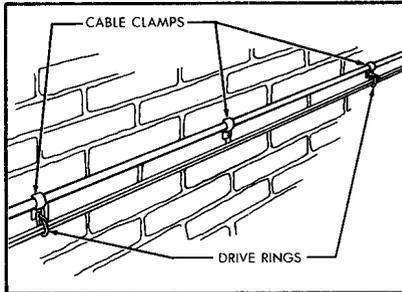

FIGURE 6. Drive Ring or Bridle Ring Run Paralleling Cable Attached with Cable Clamps
7.01 When establishing a wire run on a building wall where cable has been placed, attach the wire run as follows (Figure 6):